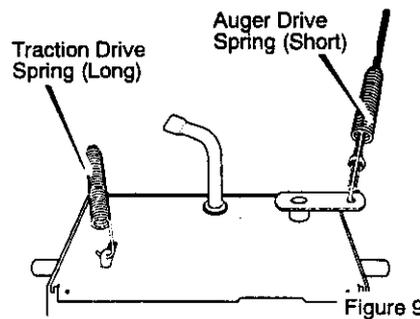

Figure 9
**NOTE:** If the cables have become disconnected, reinstall springs as shown in Figure 9.